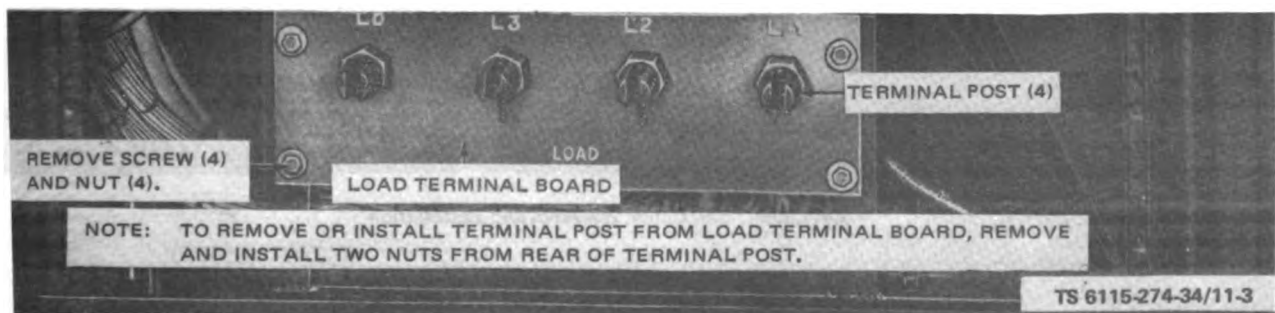

Figure 11-3. Load Terminal Board, Removal and Installation
(1) Tag and disconnect electrical leads (fig. 11-3).
(2) Remove attaching hardware.
(3) To remove terminal post from load